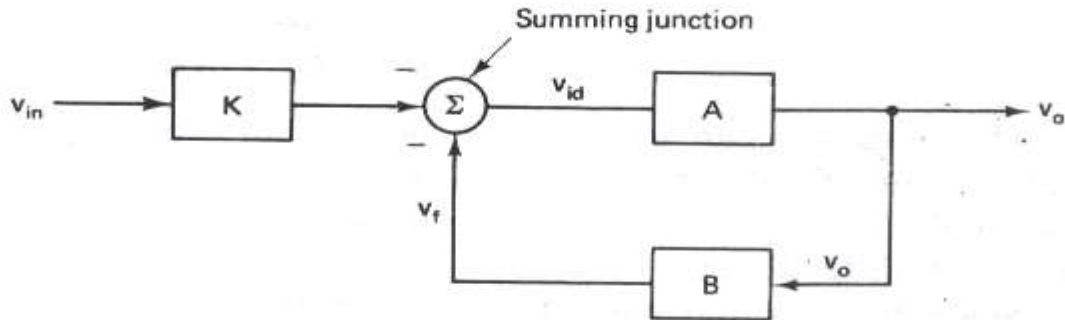

Figure 4-9 Block diagram of inverting amplifier with feedback using a voltage-summing junction as a model for current summing.
The one-line block diagram of the inverting amplifier with feedback is shown in Figure 4-9. The reason for the block diagram is twofold: (1) to facilitate the analysis of the inverting amplifier, and (2) to express the performance equations in the same form as those for the non-inverting amplifier.